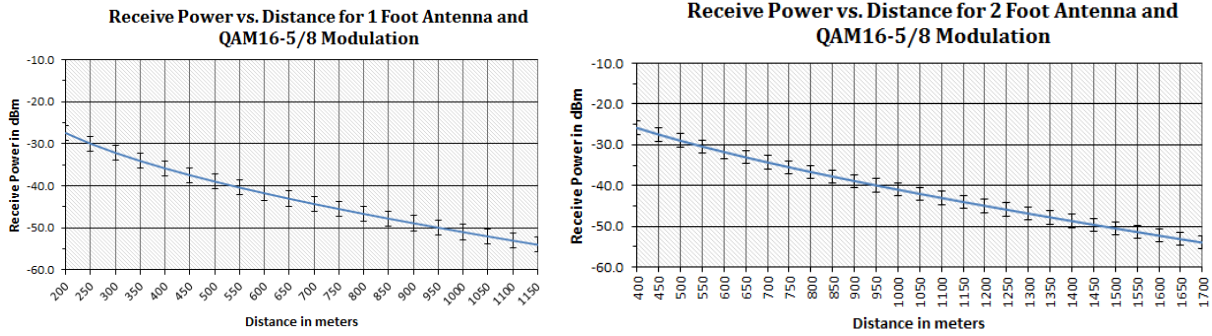

Figure 5-18: Typical AireLink 60 MX/LX RSSI vs. Distance Charts for stand distance settings
16. When aligning the system it is important to take a look at the Receive Signal Strength using either a voltmeter attached to the alignment voltage connector located at the side of the radio housing, or using the LightPointe BLE Tool and Observe the RSSI value shown in the radio submenu. The RSSI chart in Fig. 5-18 shows the RSSI signal voltage as a function of the deployment distance under ideal and clear weather conditions. Therefore, and when the system is installed under non-clear weather conditions, the values can be lower during the actual installation process. 60 GHz systems are also impacted by oxygen absorption (see Fig. 2-2) and these values can vary several dB between sea level installations and installations at higher altitudes. The RSSI values are different for the low band and the high band radio and the values vary slightly and within a few percent from one radio system to another due to manufacturing tolerances. However, the chart provides a very good indication of expected RSSI values as a function of deployment distance. The overall goal of the alignment process is to align the system as close as possible to the RSSI value provided in the RSSI chart. The RSSI voltage reading in Volt corresponds to the RF RSSI signal reading in dBm. In other words, and with the correct polarity chosen, a system that is not aligned at all will show a negative voltage reading close to -0.80 Volt and this translates into a -80 dBm power reading. This signal level is far too low to establish a data connection. During the alignment process the voltage reading will increase, meaning “less negative” voltages or higher RF RSSI reading in dBm will be recorded. The goal is to align the system at its best possible and highest RSSI reading (e.g. increase the voltage reading. When using the *Lightpointe BLE Tool*, the RSSI reading is given in dBm directly.